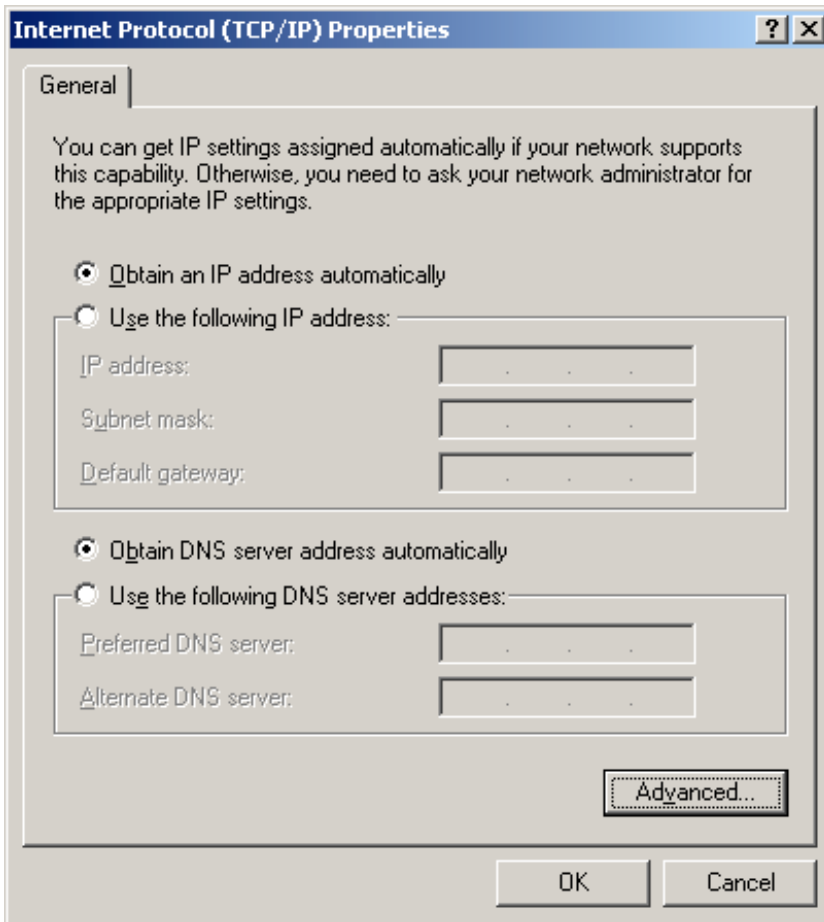

Fig. 16. Windows 2000: Internet Protocol (TCP/IP) Properties Box
4. Click on the "Add" button to release the directory of raw data files for the WWW Service (*Fig. 16*).